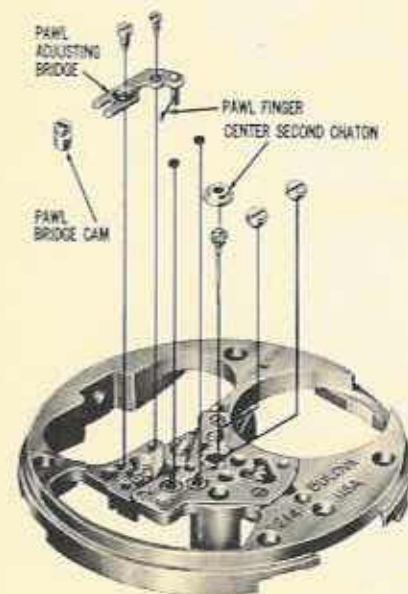

Figure 45
1. Remove pawl adjusting bridge and finger assembly by removing two screws shown in Figure 45. Pawl bridge cam is not threaded and will come out with the bridge. Care should be taken not to bend the pawl finger.